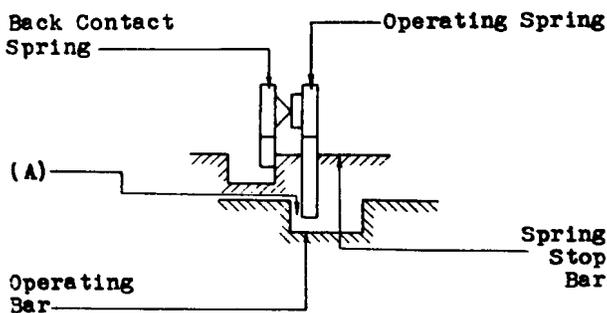

Fig. 9
2.08 Clearance Between Operating Spring and Operating Bar on Break and Transfer Spring Combinations - Figs. 9 (A) and 10 (A) -